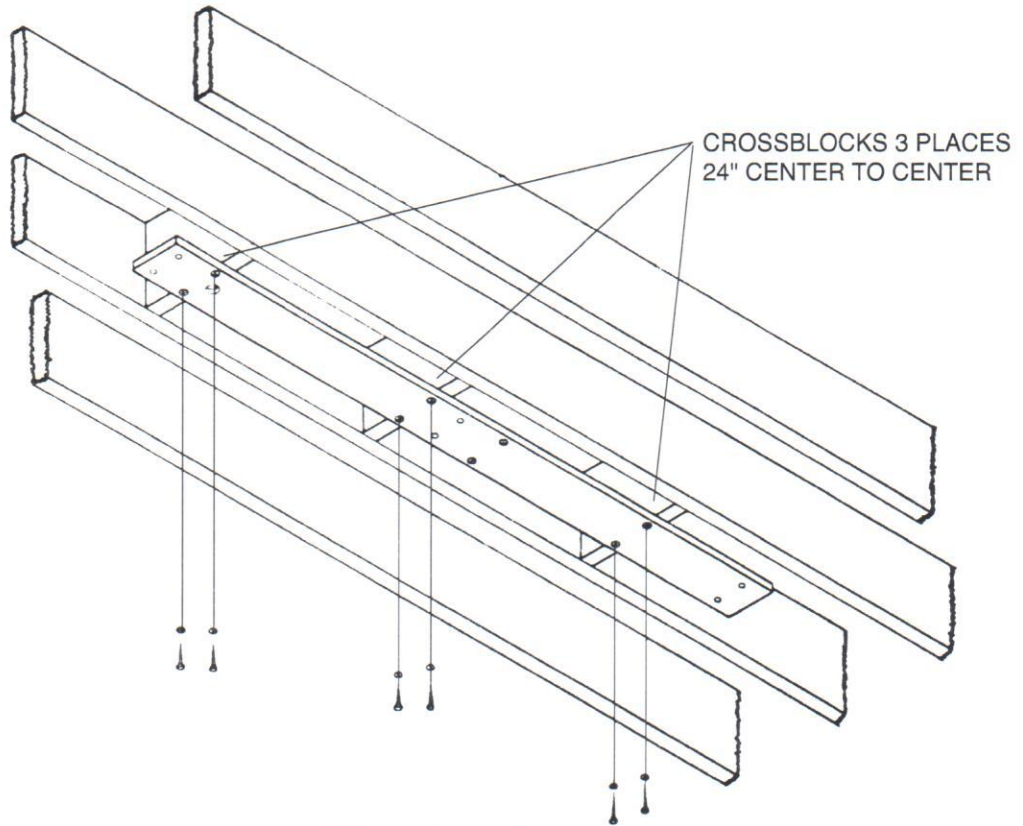

FIGURE 2 (1.1.2.)
1.1.2. For conventional ceilings with **joists parallel** to center line of light, cross blocks must be installed in 3 places to allow mounting with **at least 6 - 5/16 x 3"** lag screws. (SEE FIGURE 2.)